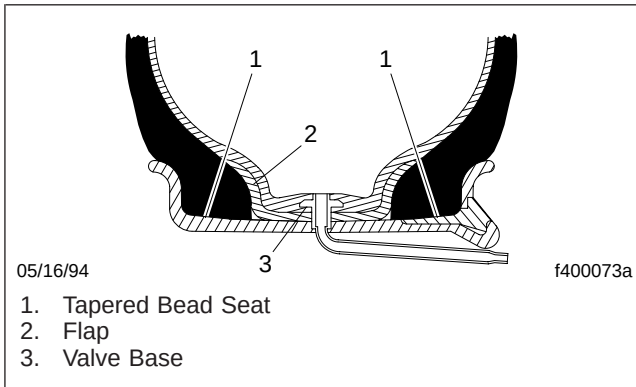

Fig. 3, Beads Pressured Onto the Bead Seat
- Depending on the tire size and rim condition, from 20 to 40 psi (140 to 275 kPa) pressure is needed to push the beads onto the bead seat. See Fig. 3.